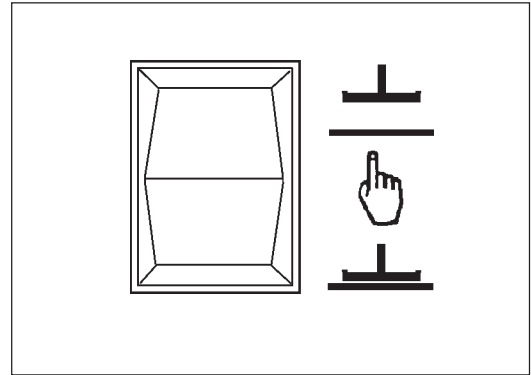

Figure 22
1. To lower the squeegee and start the vacuum motor, press the squeegee up/down switch to the down position (figure 22). **NOTE: The vacuum motor will start immediately when the down position of the switch is pressed, and the squeegee will lower.**
2. To raise the squeegee, press the squeegee up/down switch to the up position (figure 22). The squeegee will then raise and the vacuum motor will shut off after short delay **NOTE: The center position of the squeegee up/down switch is for use with one touch control.**